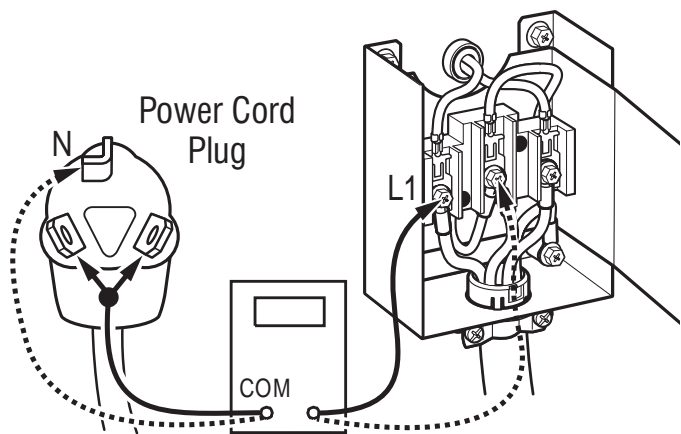

Figure 2
4. **ACU VAC** – With voltmeter set to **AC**, connect black probe to ACU J13-2 (L2) and red probe to J13-1 (L1). (See Figure 2.) Plug in dryer or reconnect power.
3. With an ohmmeter, check for continuity between the neutral (N) terminal of the plug and the center contact on the terminal block. See figure 2.
4. In a similar way, check which terminal of the plug is connected to the left-most contact on the terminal block and make a note of it. This will be L1 (black wire) in the wiring diagram. Follow the same procedure for L2 (red wire). See figure 2.